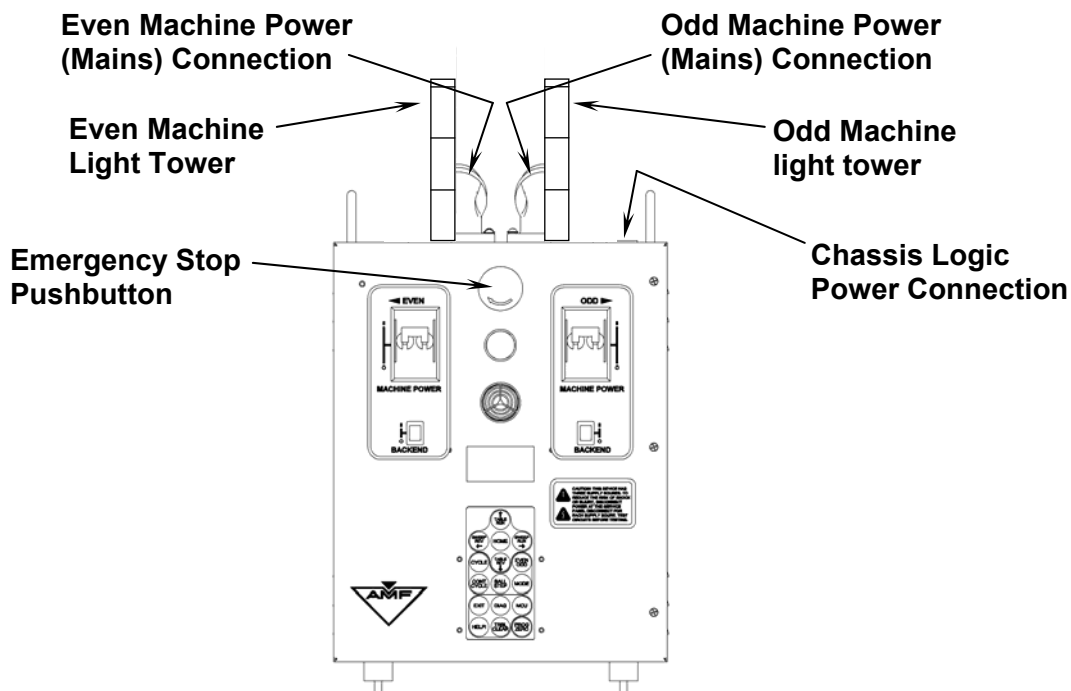

Figure 2-1
1. **DISCONNECT THE POWER PLUG** before working on any pinspotter equipment and before entering an operating portion of a pinspotter (Figure 2-1). FOR ENTRY INTO A PINSPOTTER, THE ADJACENT (PAIRED) PINSPOTTER MUST BE ISOLATED IN THE SAME MANNER AS THE PINSPOTTER BEING ACCESSED. Follow your center's established lock out and tag out procedures.